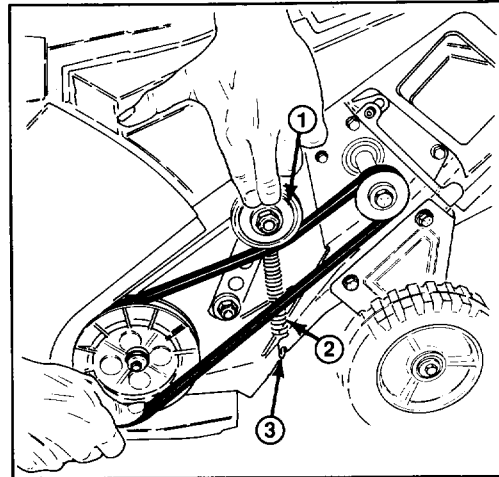

Figure 11
- 4. INSTALLING BELT (Fig. 11)**—Loop belt around drive pulley. Make sure long end of idler spring is hooked in housing notch and round end of spring